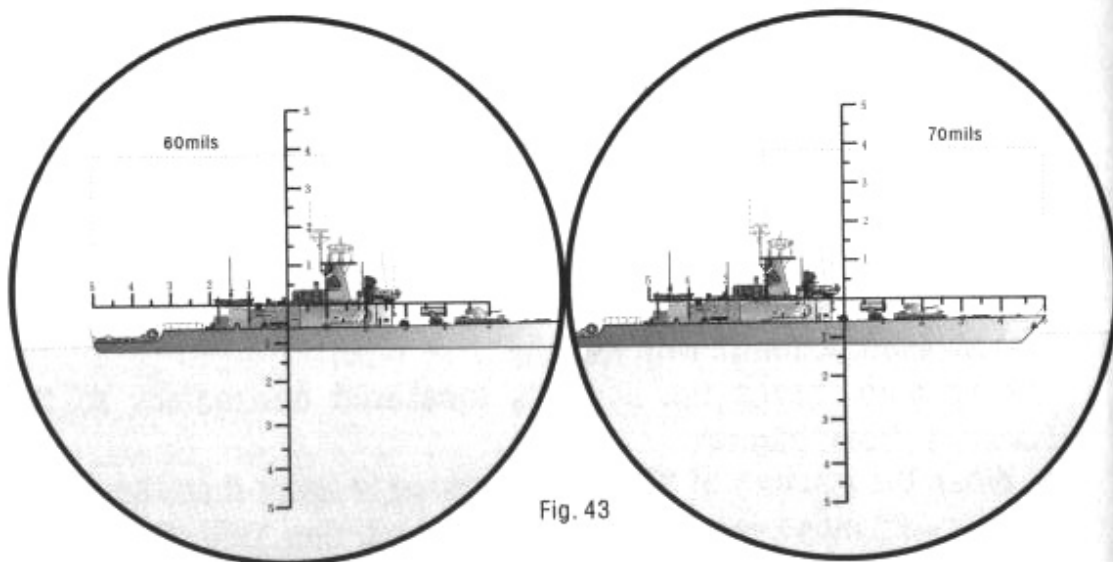

Fig. 43
B. When the azimuth of "Object" measured is larger than the reticle range ( $\pm 50$  mils), measure the azimuth by fitting vertically "Object" with reticle and summing the Measurements of reticles. For an example shown in Fig. 43, the Azimuth of "Cruiser" as "Object" is Measured to be 130 mils (60 mils + 70 mils = 130 mils).